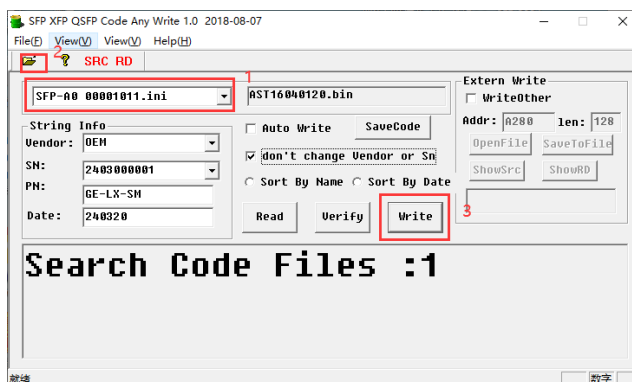

Figure 10
3.1 Select the configuration file "SFP-A0 00001011" corresponding to the 10G LR optical module with the password "00 00 10 11" (as shown in Figure 10)
3.2 Click the  Or select the menu: File->Select Code Source Folder, choose the folder where you saved the codes, Click OK. (as shown in Figure 10)
3.3 Click the " Write " (as shown in Figure 10)